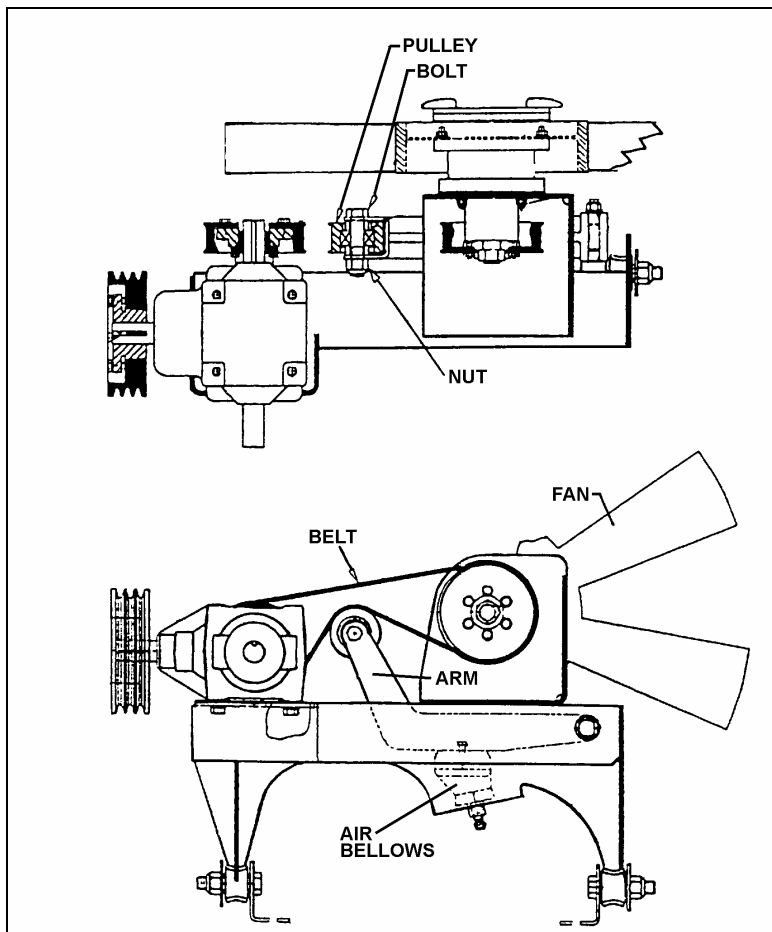

FIGURE 2: FAN DRIVE INSTALLATION
3. Remove bolt securing belt tensioner idler pulley (refer to fig. 2).